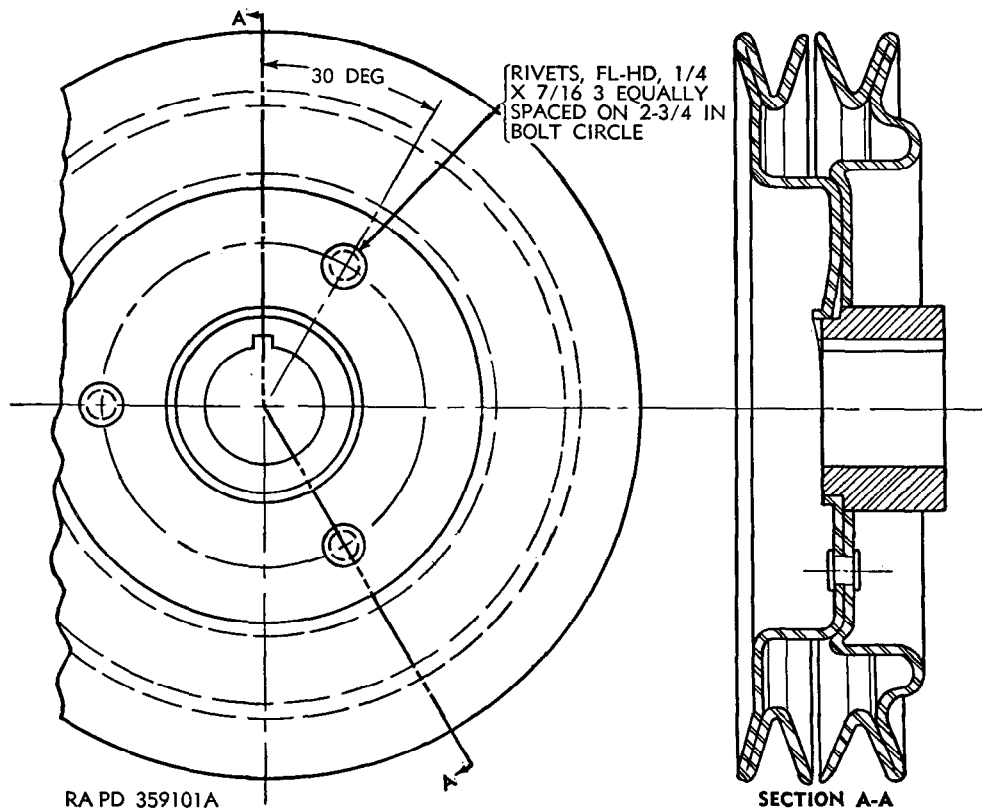

Figure 38. Installation of rivets in pulley.
*c. Strengthen Pulley.* If inspection of pulley shows that inside flanges are separating at the hub, apply corrective procedure described in (1) through (4) below.
- (1) Remove pulley from engine.
- (2) Lay out three holes in the pulley on a  $2\frac{3}{4}$ -inch diameter circle,  $30^\circ$  from centerline of key slot (fig. 38).
- (3) Drill three  $\frac{1}{4}$ -inch holes in pulley.
- (4) Install three  $\frac{1}{4} \times \frac{7}{16}$  flat-head steel rivets 118055 and rivet securely in place.